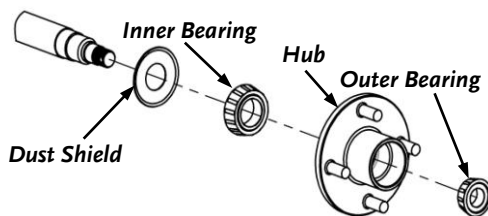

Figure 61
6. Pull the Hub off the Axle (**Figure 61**) which will bring the Outer Bearing with it.
9. Grease the Axle Shaft and slide a new Dust Shield, Inner Bearing (taper end pointing out) and the Hub back onto the Axle Shaft (**Figure 61**).
10. Grease the inside and outside chamfer of the Hub and slide the Outer Bearing back onto the Axle Shaft with the tapered end facing in until it is firmly seated inside the Hub (**Figure 61**).